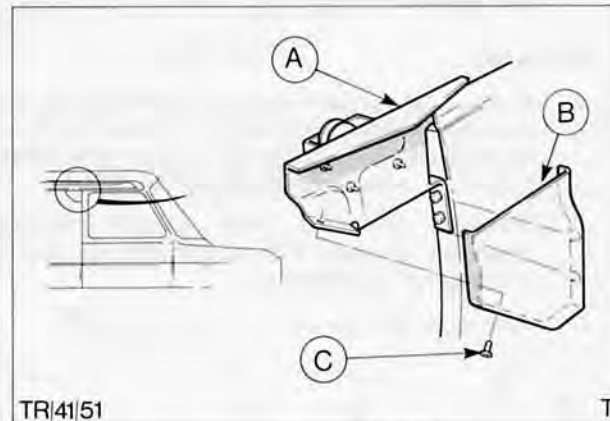

Fig. 34. Cover to sliding door rear roller
7. Fit rear roller cover to door by inserting between rear roller fixing bracket and door. Tighten roller bracket bolts, then fit remaining screw Fig. 34 'C' to secure cover Fig. 34 'B' to roller bracket.